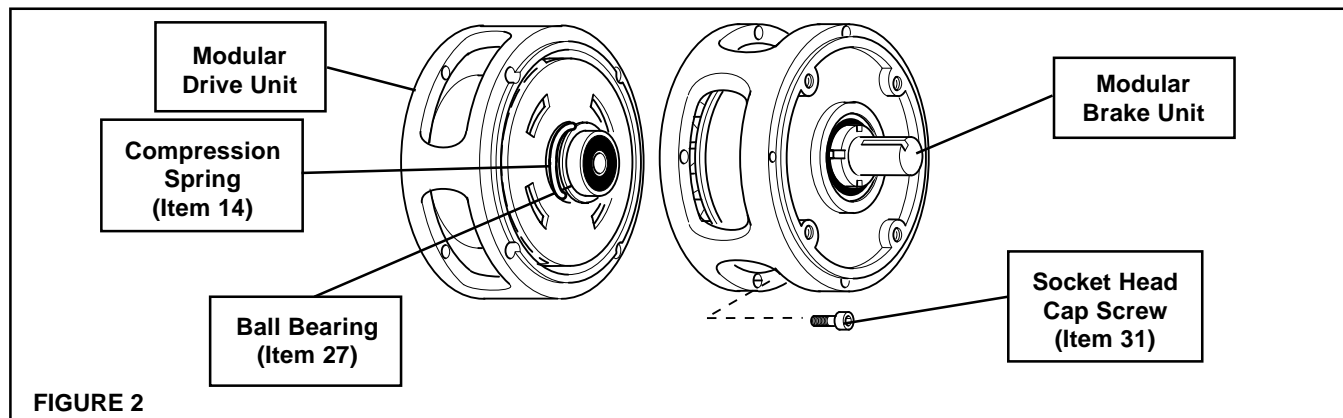

FIGURE 2
1. Place the Modular Drive Unit (MDU) on a table with the Ball Bearing (Item 27) facing up and properly seated against the Retaining Ring on Models 625, 875, and 1375 or against the Hub on Model 1125 (See Figure 2).
- Set the Modular Brake Unit (MBU) onto the MDU, making sure the Ball Bearing (Item 27) is fully seated into the bore of the MBU (See Figure 2).
- Rotate the MBU until the four clearance holes are aligned with the four tapped holes in the MDU (See Figure 2).
- Press the MBU down against the Compression Spring (Item 14) until the faces of both units are flush (See Figure 2).
- Using the four Socket Head Cap Screws (Item 31), secure the MBU to the MDU (See Figure 2).
- Alternately and evenly tighten the four Socket Head Cap Screws (Item 31) to 50 Ft. Lbs. [69 N•m] torque (See Figure 2).